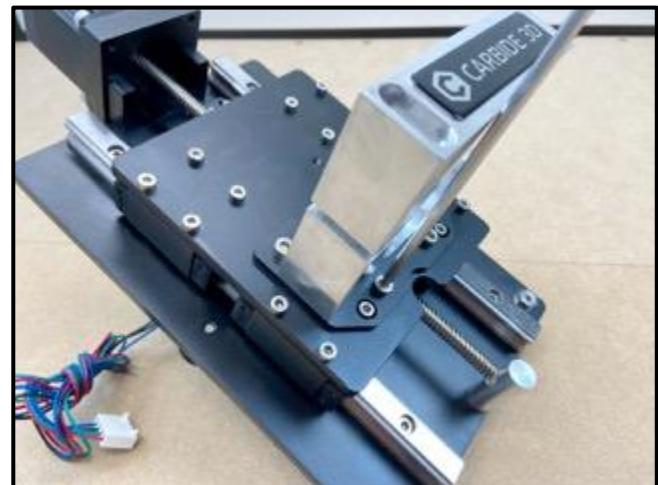

Figure 3-12
2. Position the router mount with “Carbide 3D” logo upright and tramping plate resembling the letter “U.” Place it onto the front of the Z-Plus and align the four (4) tramping plate through-holes with the four (4) available M5 screw holes on the front of the Z-Plus.
3. Use the 4mm hex key and the four (4) M5x8mm socket head cap screws to secure the router mount and tramping plate to the Z-Plus and tighten. *Figure 3-12*.